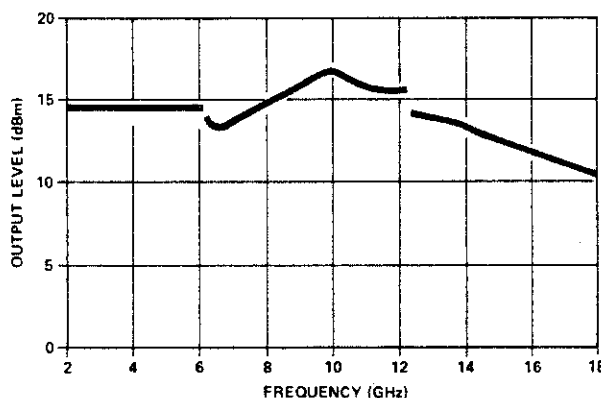

Figure 4-1A. Typical Maximum Power Available.
8. Tune from 2 to 18 GHz in 100 MHz steps. The output power should remain above +8 dBm over the entire frequency range. The graph in Figure 4-1A shows the typical output power available under these conditions. Be sure the NOT PHASE LOCKED annunciator is off before making power measurements. Change the CAL FACTOR control on the power meter as the frequency is changed.